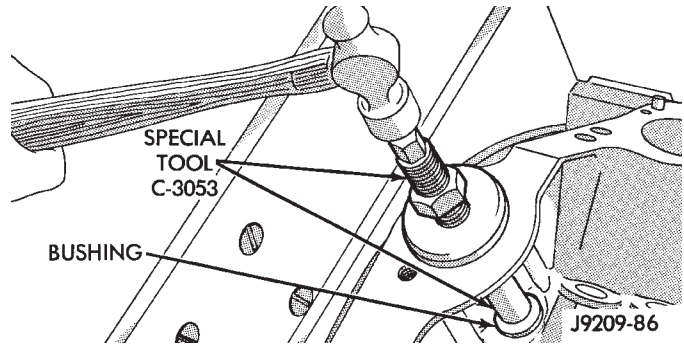

Fig. 21 Distributor Driveshaft Bushing Installation
- (1) Slide new bushing over burnishing end of Distributor Drive Shaft Bushing Driver/Burnisher Tool C-3053. Insert the tool and bushing into the bore.
- (2) Drive bushing and tool into position, using a hammer (Fig. 21).